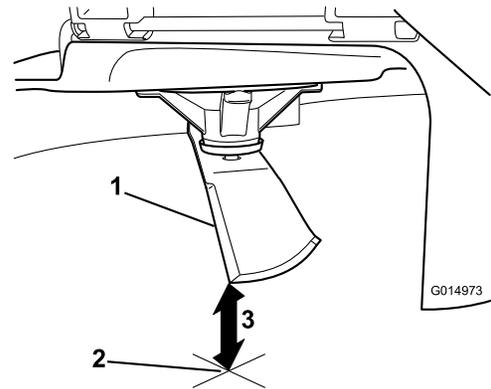

**Figure 87**
3. Measured distance between blade and the surface (A)
4. Rotate the same blade 180 degrees so that the opposing cutting edge is now in the same position (Figure 87).